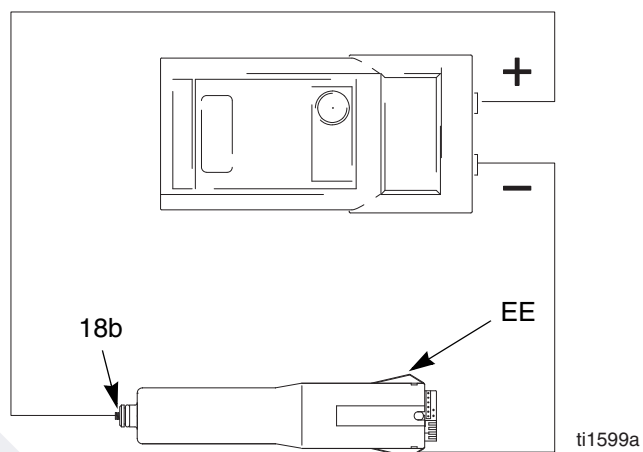

Fig. 7. Test Power Supply Resistance
1. Remove the power supply (18), page 30.
2. Remove the turbine alternator (19) from the power supply, page 31.
3. Measure resistance from the power supply's ground strips (EE) to the spring (18b). See FIG. 7.